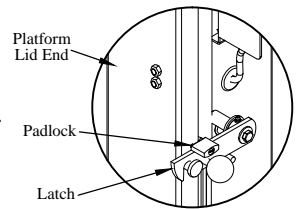

Figure 1
Step 1. To open the platform, go to the driver's side of the Tommy Gate and unsecure by lifting the latch off the platform pin and rotate the latch away from the platform. Proceed to the passenger's side of the Tommy Gate and remove the latch padlock (Figure 1). Now lift the passenger's side latch off the platform pin with one hand while holding the top of the platform with your other hand. Now pull the platform open and step away from the platform as it opens.
Step 9. When the platform is raised to the level of the vehicle's floor and the load is removed from the platform, close the platform and folding extension (if so equipped) by hand. The latch on the passenger's side will secure itself. Go to the driver's side and lift the latch and hook it onto the pin of the platform. Install the padlock (Figure 1).